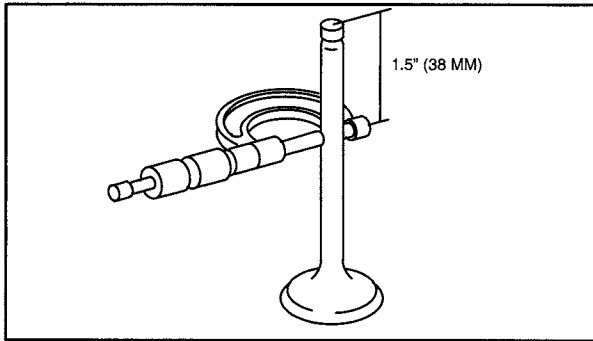

Fig. 15
1. Measure valve stem diameter approximately **1-1/2" (38 mm)** from end of valve, **Fig. 15**. Replace valve if stem diameter is less than **0.233" (5.92 mm)**.